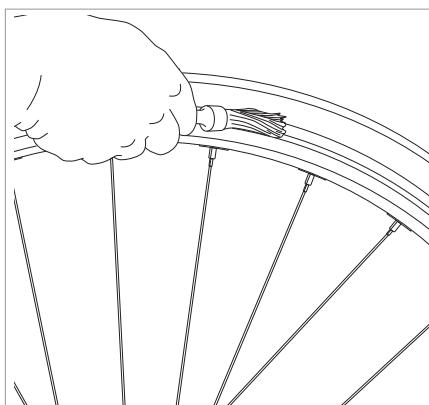

Fig.15
- Dip a brush (diameter approx. 2 cm) in a container of water and neutral soap, and apply plenty of water to the tyre beads (Fig.15).